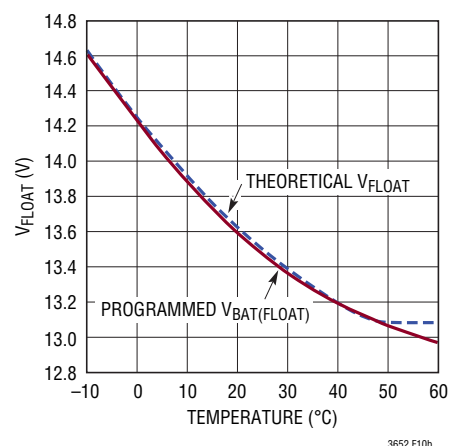

Figure 10. Thermistor-Based Temperature Compensation Network Programs V_{FLOAT} to Closely Match Ideal Lead-Acid Float Charge Voltage for 6-Cell Charger
While the circuit in Figure 9 creates a linear temperature characteristic that follows a typical $-3.3\text{mV}/^{\circ}\text{C}$ per cell lead-acid specification, the theoretical float charge voltage characteristic is slightly nonlinear. This nonlinear characteristic follows the relation $V_{\text{FLOAT}(1\text{-CELL})} = 4 \times 10^{-5} (T^2) - 6 \times 10^{-3} (T) + 2.375$ (with a 2.18V minimum), where T = temperature in $^{\circ}\text{C}$. A thermistor-based network can be used to approximate the nonlinear ideal temperature characteristic across a reasonable operating range, as shown in Figure 10.